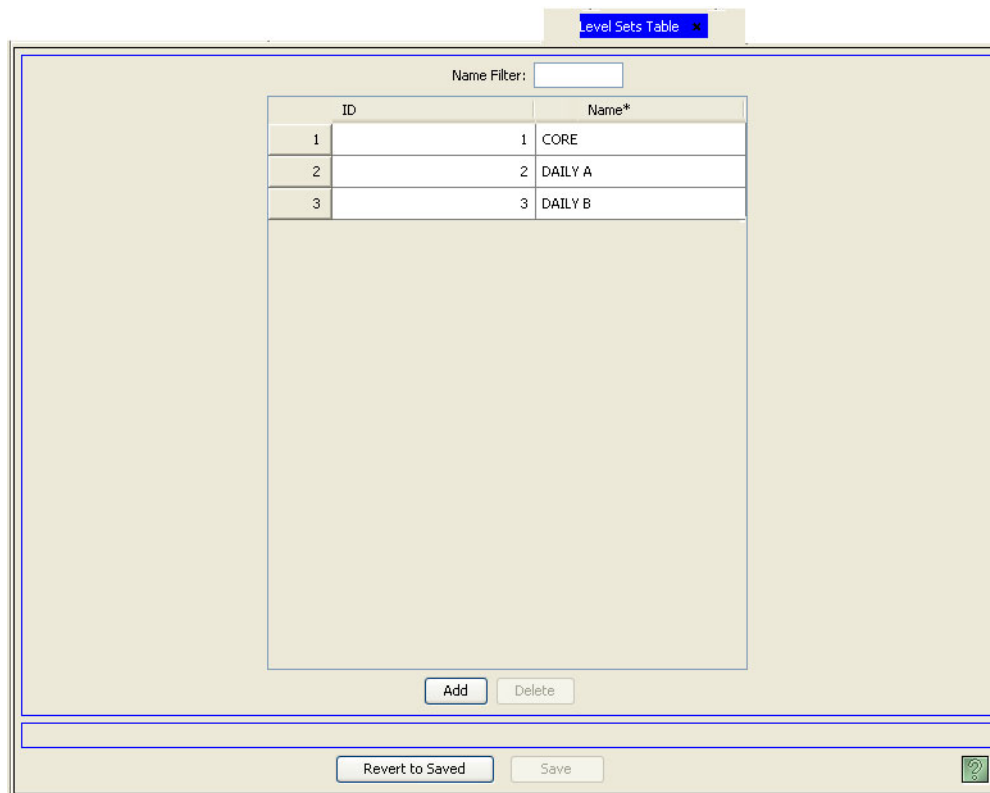

Figure 8-30. Level Sets Table
- 2 From the Navigation area, select the 'Views' pane and then 'Level Sets'. The 'Level Sets' table appears, as shown in Figure 8-30.